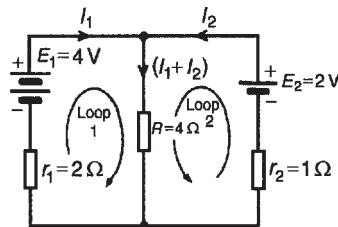

Figure 15.5
- Use Kirchhoff's current law and label current directions on the original circuit diagram. The directions chosen are arbitrary, but it is usual, as a starting point, to assume that current flows from the positive terminals of the batteries. This is shown in Fig. 15.5 where the three branch currents are expressed in terms of I_1 and I_2 only, since the current through R is $(I_1 + I_2)$
- Divide the circuit into two loops and apply Kirchhoff's voltage law to each. From loop 1 of Fig. 15.5, and moving in a clockwise direction as indicated (the direction chosen does not matter), gives
From loop 2 of Fig. 15.5, and moving in an anti-clockwise direction as indicated (once again, the choice of direction does not matter; it does not have to be in the same direction as that chosen for the first loop), gives:
(i.e. I_2 is flowing in the opposite direction to that shown in Fig. 15.5)